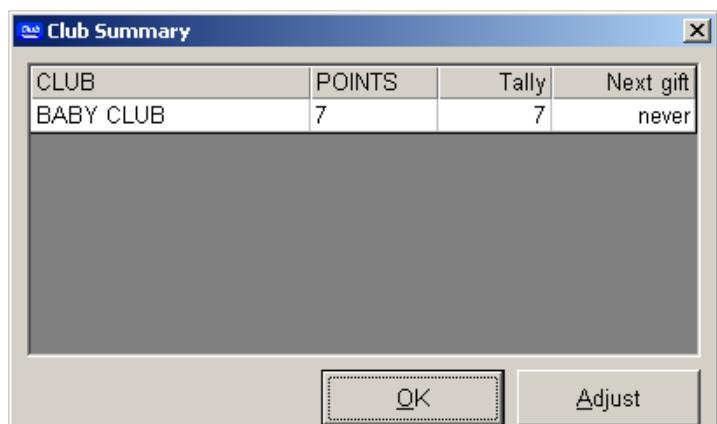

Figure 403
7. A window is displayed showing the customer's current spend and the sale concludes normally (see Figure 403).